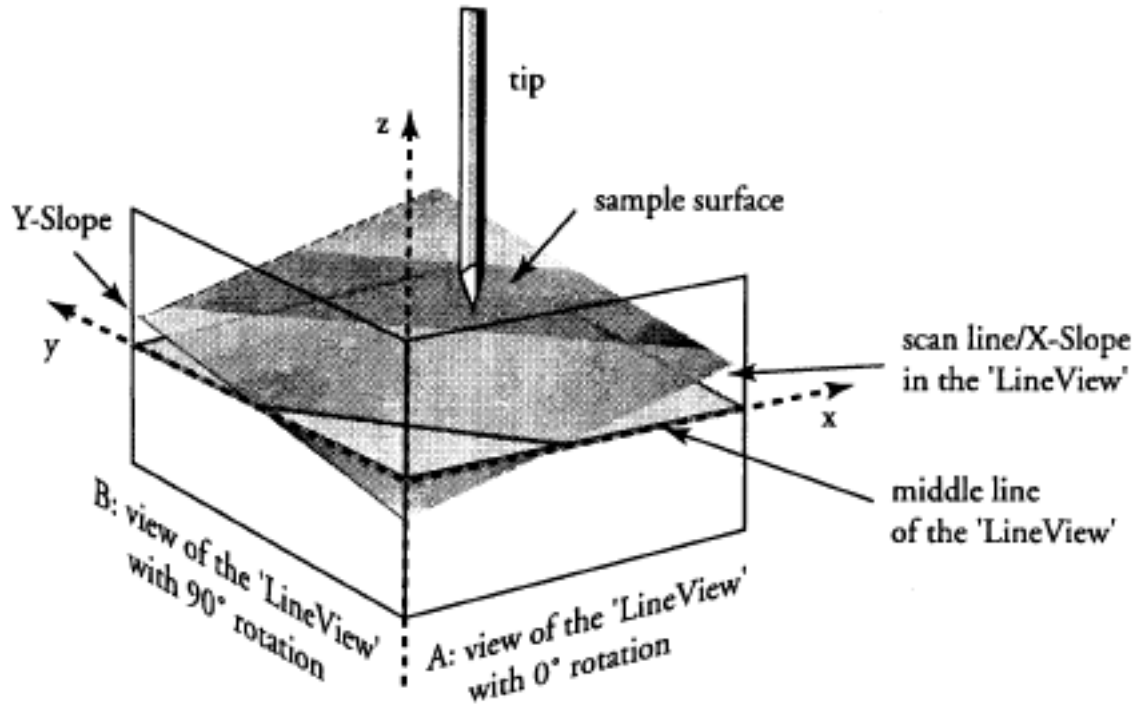

Figure 6
8. Adjust the sample’s tilt coordinates. The ideal scan range for the tip lie in the x, y-plane of the piezo-scanner. However, most time the sample is tilted with respect to that ideal plane. Since the sample’s tilt can’t be compensated directly, we have to adjust the scan coordinate. By setting suitable values for the X- and Y-slope the scanner’s coordinate system is tilted so that the sample’s surface appears to lie in the ideal x, y-plane. Use the “X-Slope” and “Y-Slope” to make the scan line lie parallel to both the x and y axes. Figure 6 shows the relation between X- and Y-slope.